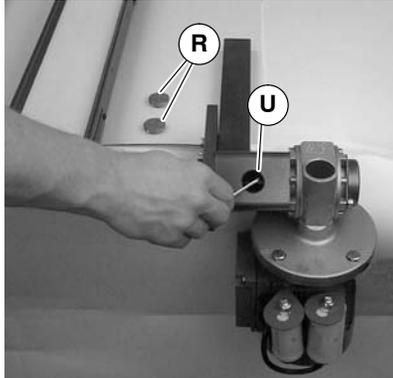

Figure 30
REPLACE INSPECTION PLUGS (R of Figure 30) BEFORE RUNNING CONVEYOR.
12. Tighten coupling set screws (U of Figure 30). Replace inspection plugs (R).